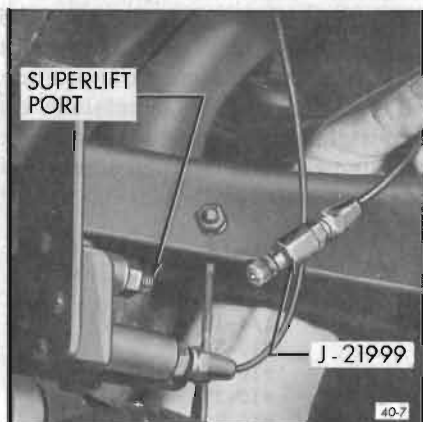

Figure 40-8—Remove Superlift Air Supply Line
2. Remove Superlift air supply line at height control valve. See Figure 40-8.